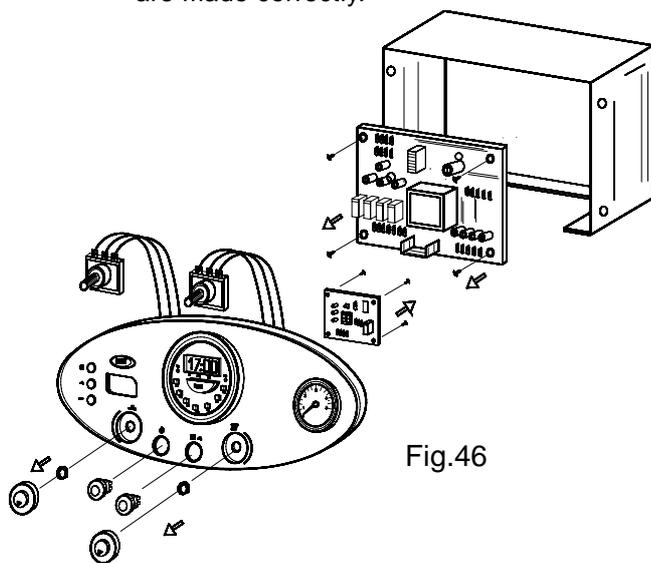

Fig.46
**8.24 TO REMOVE/REPLACE CONTROL BOARD (Fig.46).**
**8.25 TO REMOVE/REPLACE DIGITAL DISPLAY BOARD (Fig.46).**